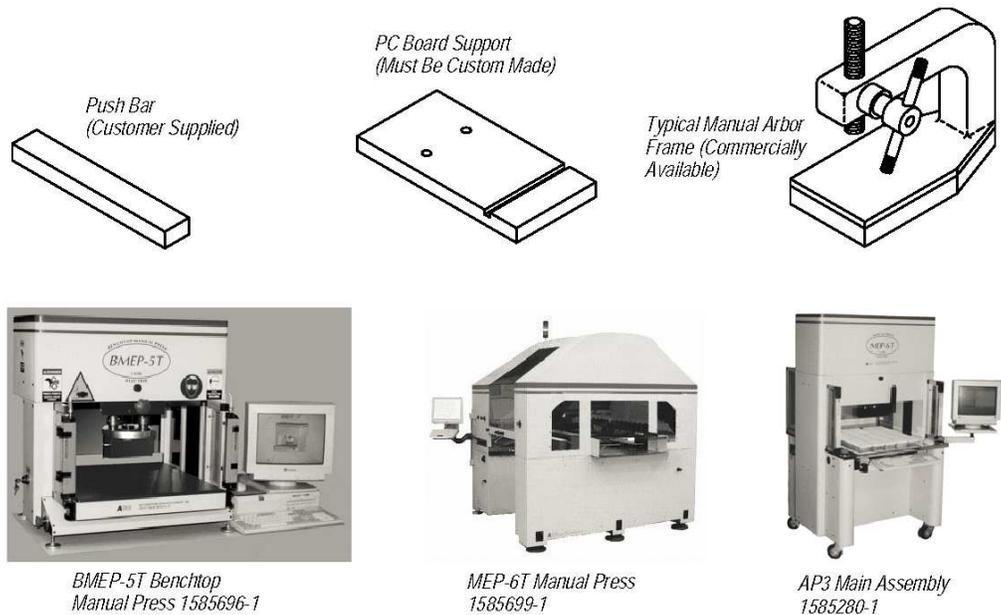

Figure 6
It is recommended that the customer include alignment holes on the pc board that correspond to alignment pins on the pc board support to aid in locating the pc board, and align the pc board thru-holes to the clearance holes. The pin diameter "N" is machined to suit the datum hole in the pc board. The pin dimension "P" is machined to suit the datum hole or slot in the pc board. Dimension "E" in Figure 6 represents the location of Datum "B" in the "X" direction, and is at the fabricator's discretion. Dimension "F" represents the location of Datum "B" in the "Y" direction and is also at the fabricator's discretion. Basic dimensions "K" and "U" represent the distance from the datum to the first row of holes; these dimensions correspond to the design of the pc board.
5.3. Power Units (Figure 6)
5.4. Arbor Frame Assembly (Figure 6)